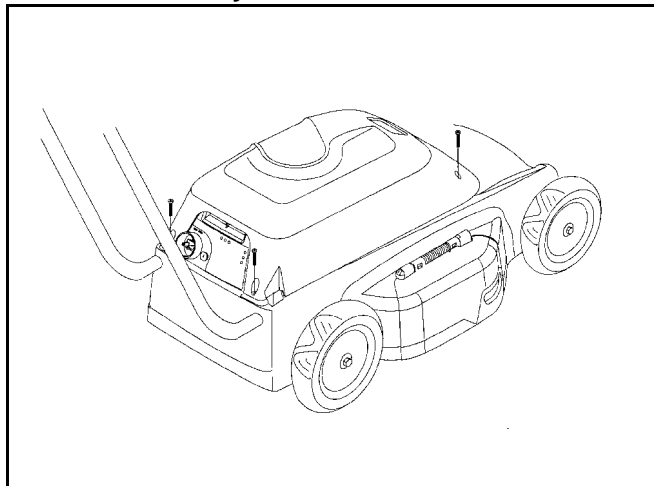

Figure 28
- Remove top shroud (Figure 28) and clean out any debris underneath it with compressed air, a vacuum cleaner, or a brush.